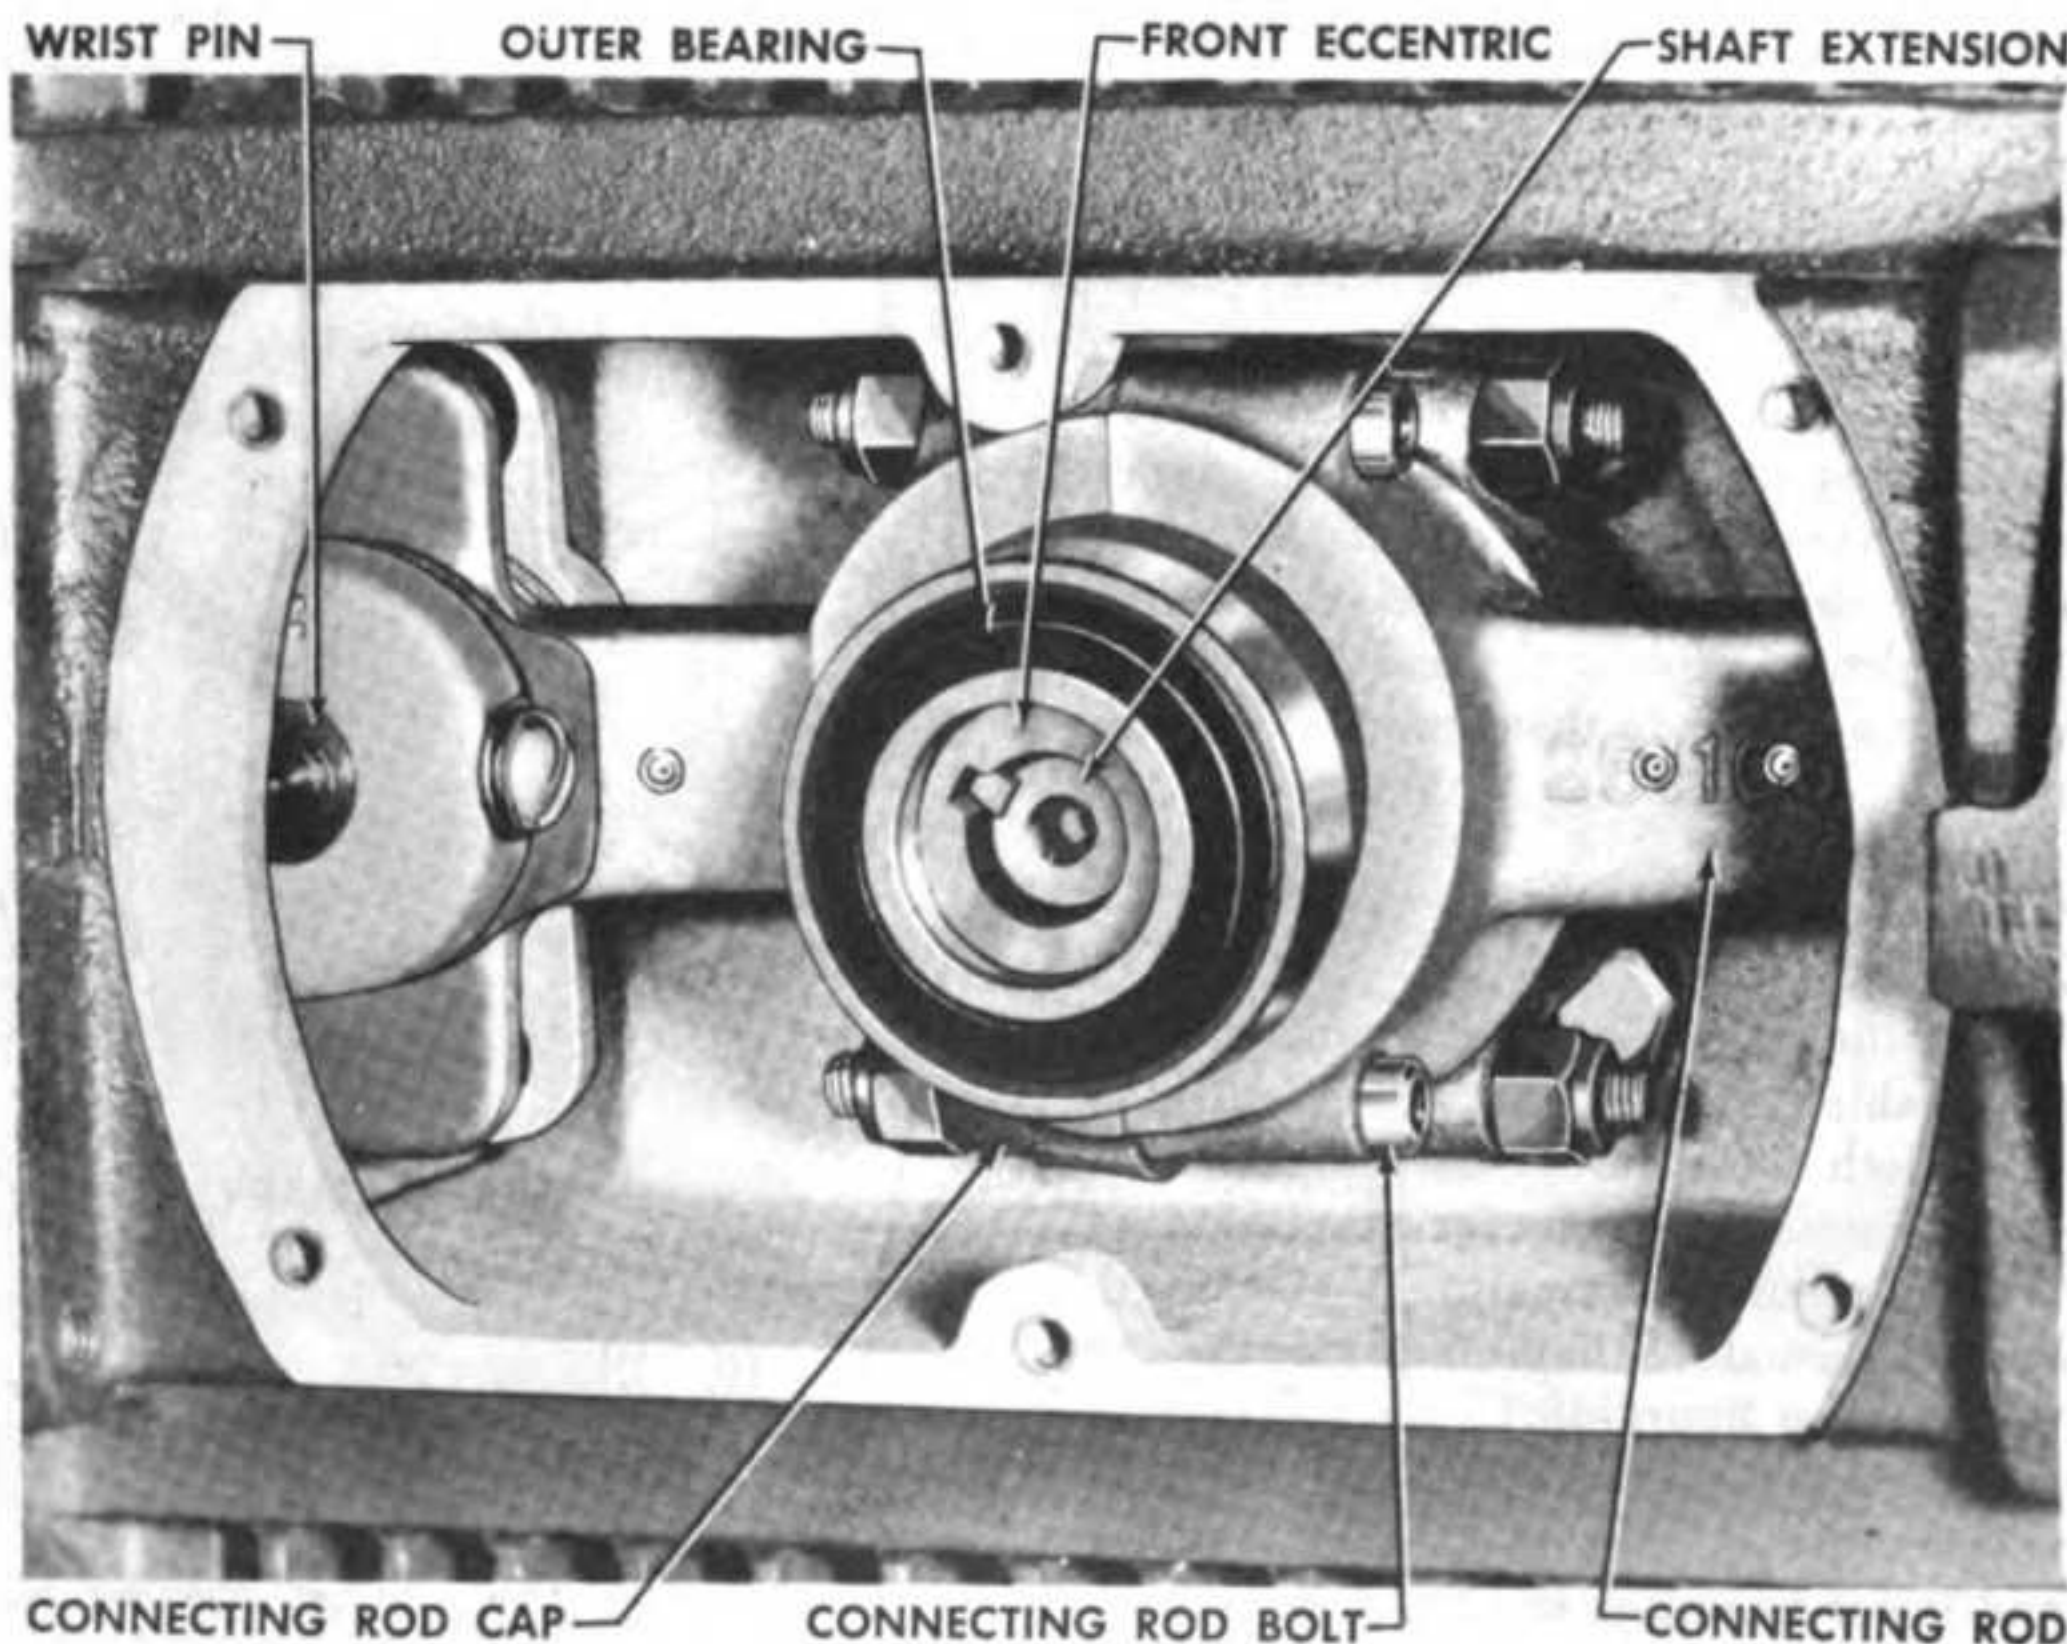

Figure 52—Compressor Cover Removed
e. Remove the cover plate plug screw from the center of the cover plate and insert a cover removing screw; tighten the screw until the cover is free. (See figure 52.)